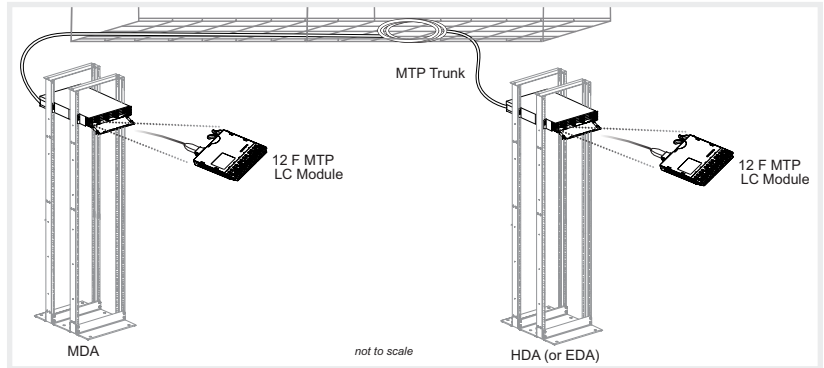

Figure 6: Preterminated Cable
**Preterminated cable:** Typically deployed for indoor plenum-rated cabling, these trunks are factory-terminated on both ends with 8- or 12-fiber MTP® connectors. They are ideal for MDA to HDA or EDA installations involving raceway or race floor where the entire fiber count is being deployed in one run at a single location at each end of the link. See Figure 6.